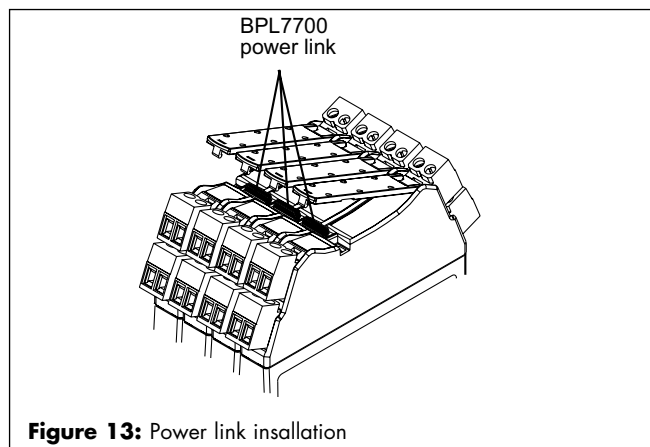

Figure 13: Power link installation
Install the power links as follows (figure 13):
- d) Lift the tag holders to gain access to the power link connectors and insert the links (figure 13).